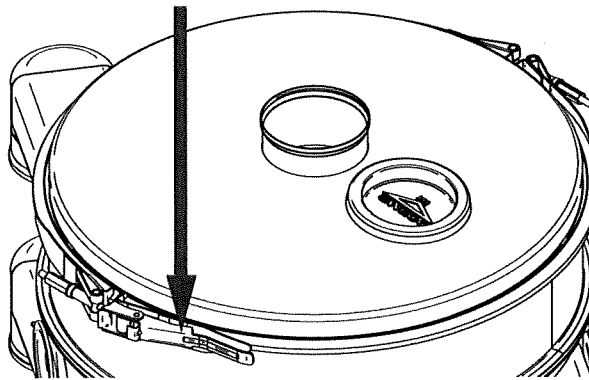

Figure 9 Top Cover Clamp Band Tension Adjuster (Arrowed)
- 8. Install cover to the top of the frame (Refer to Figure 9) if applicable.